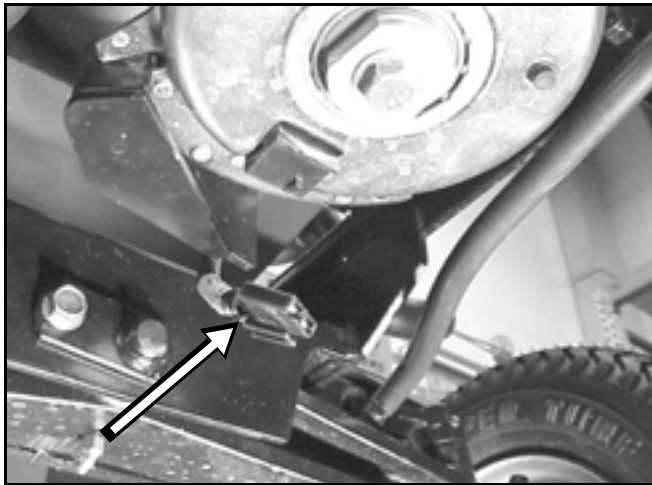

Figure 151
2. Disconnect the electric PTO clutch wire clutch (Figure 151).